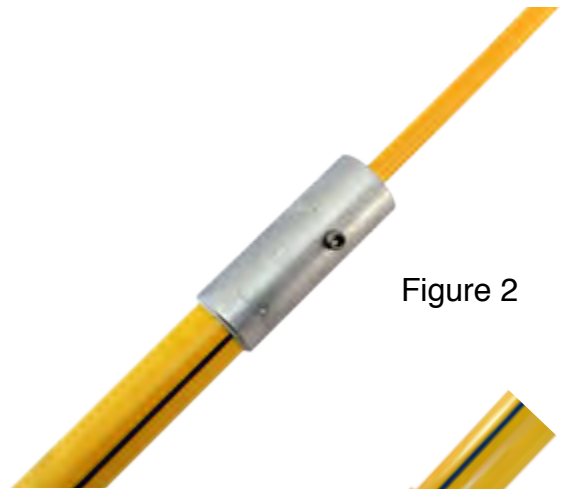

Figure 2
2. Align the holes of the coupling with the threaded holes of the hook assembly. Insert and tighten three 1/4-20 Stainless Cap Screws using a 3/16" Allen Wrench. (Figure 2)